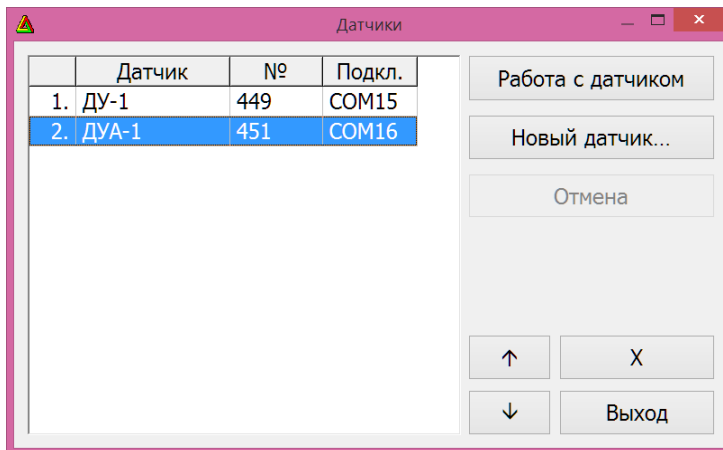

Figure 4. Devices dialog box in “DB SIAM”
- the “Devices” dialog box will appear (see Fig.4):